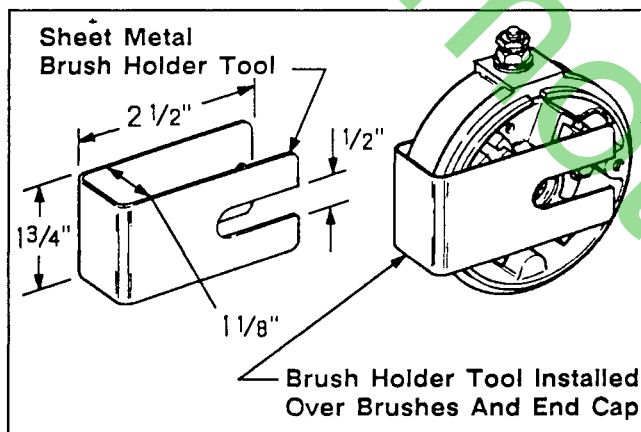

Figure 8-24. Brush Holder Tool.
NOTE: Use a brush holder tool to keep the brushes in the pockets. A brush holder tool can easily be made from thin sheet metal. Refer to Figure 8-24.
3. Install the brush holder tool to keep the brushes in the pockets of commutator end cap. Refer to Figure 8-24.